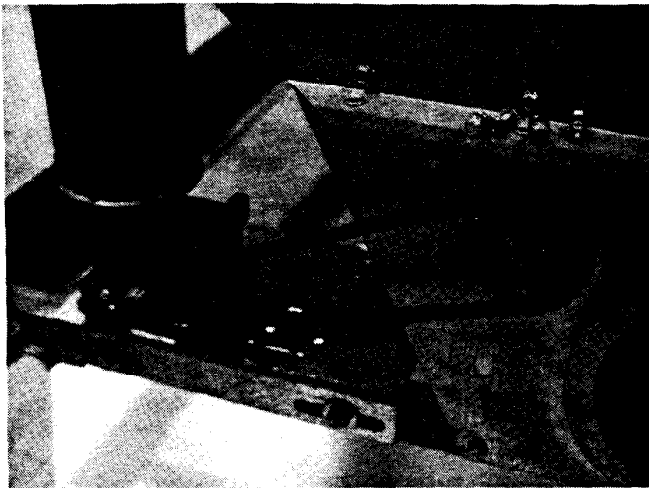

FIG. 20 METER ROLL DRIVE
- A. Disconnect gas supply line close to the Fan-Heater Control Box and disconnect the plumbing support from side of fan can. Refer to Fig. 20.